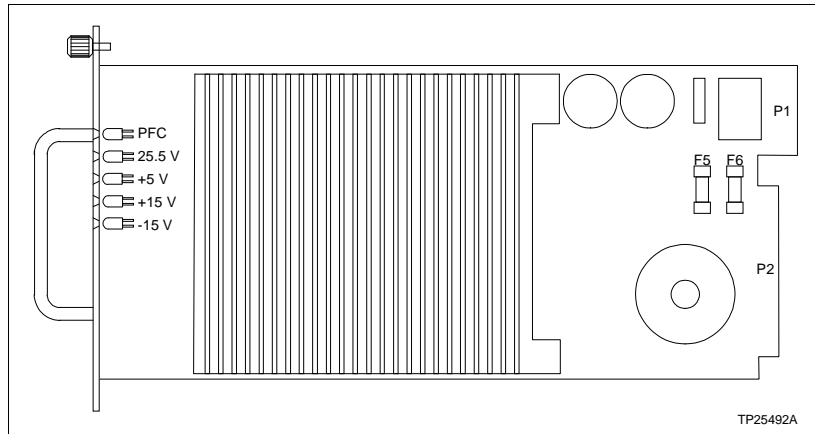

Figure 3-8. IPSYS01 Circuit Board Layout
1. Check the fuses (F5 and F6). They should be installed and in good condition before installing the power module. Figure 3-8 shows the IPSYS01 circuit board layout (the IPFLD circuit board layout is very similar except for the LEDs). If a fuse is missing or damaged, install or replace it with an equivalent fuse. Refer to Table 7-1 for the Elsag Bailey part number and description of this fuse.